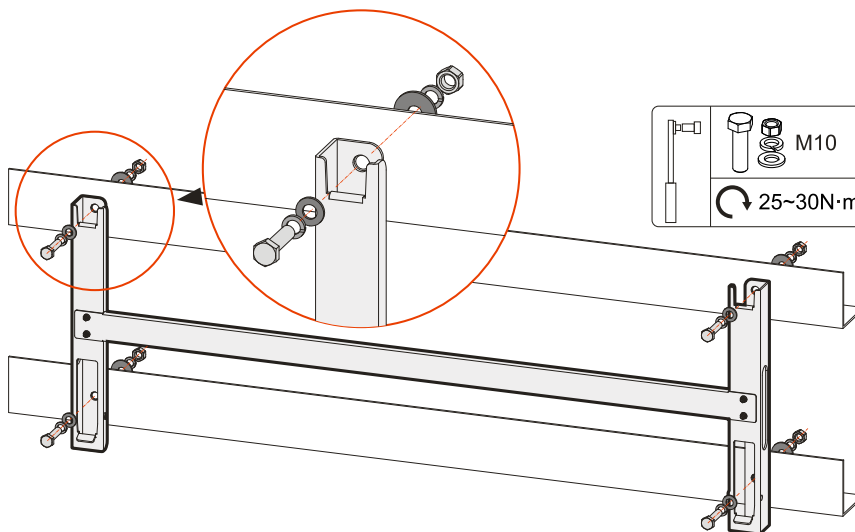

Figure3-15 Fix installation holder
Step 4 Fix the installation holder to the bracket, use M10*40 bolts, put on flat washers, spring washers and nuts, and then tighten the nuts clockwise with a wrench, as shown in Figure3-15.